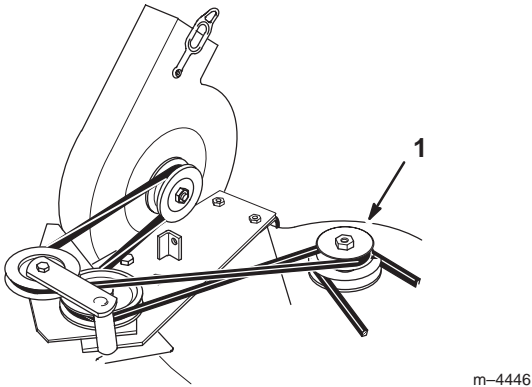

Figure 37
1. Open the latch and swing the blower out away from the mower, remove the blower belt from the double pulley (Fig. 37).